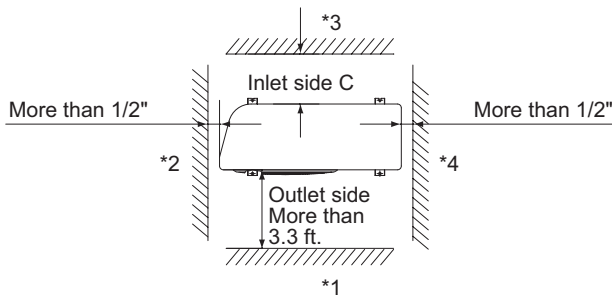
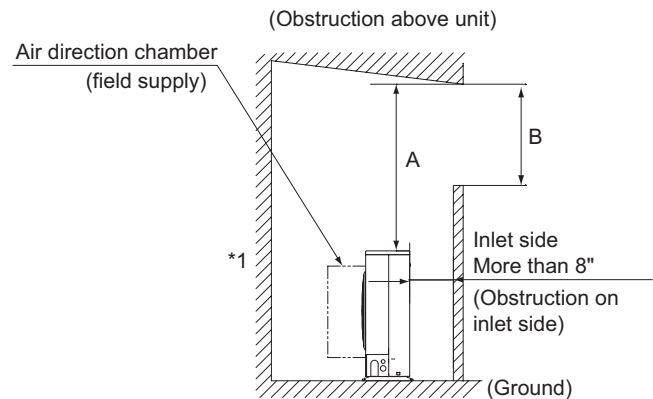

Fig. 1-4
Fig. 1-5
- allow enough room around the unit for air intake/exhaust and possible maintenance. (Fig. 1-4)
- Concerning inlet-side distance "C" (Fig. 1-4)
- If wall *1 is on the outlet side (Fig. 1-4), or if obstructions are present on all 3 sides *2, *3, and *4 (Fig. 1-4), then the minimum distance for "A" and "B" is 80" (Fig. 1-5). Even if there is no wall on the outlet side, a minimum of 3.3 ft. is required.